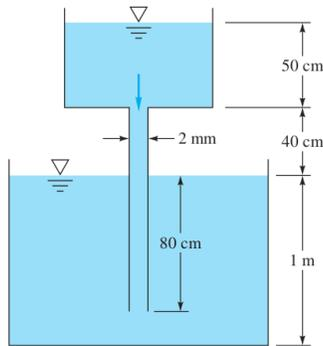

Fig. 6.4
- 6.4 For the configuration shown in Fig. 6.4, the fluid is ethyl alcohol at 20°C, and the tanks are very wide. Find the flow rate which occurs in m³/h. Is the flow laminar?